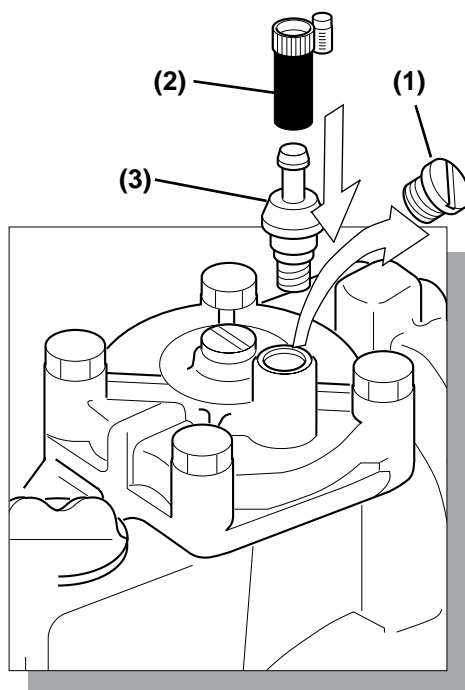

Figure 5
1. Connect a hose to the top adapter joint and to a compressed air source (**Figure 5, (2)**). Within 10 to 15 minutes almost all oil will be blown out.